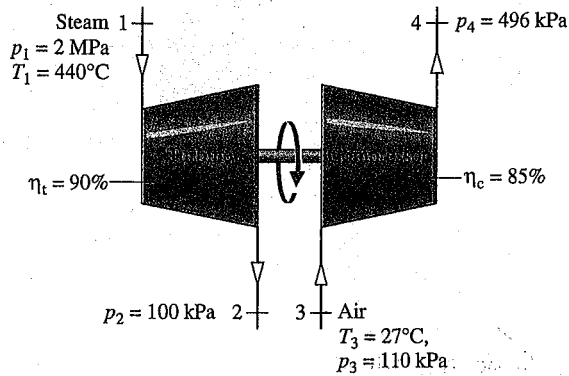

Fig. P6.164
6.164 As shown in Fig. P6.164, a steam turbine having an isentropic turbine efficiency of 90% drives an air compressor having an isentropic compressor efficiency of 85%. Steady-state operating data are provided on the figure. Assume the